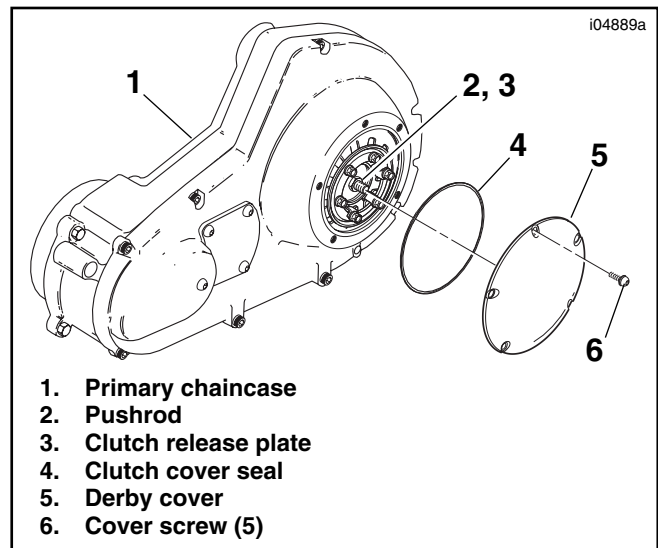

Figure 3. Clutch Inspection Cover
2. See Figure 3. Using a T27 TORX drive head, remove the clutch-inspection (derby) cover (5) from the primary chaincase (1).
1. See Figure 3. Remove the quad-ring clutch-inspection cover seal (4) (2004 and later models use a gasket, H-D Part Number 25416-99C) from the groove in the primary chaincase cover. Wipe all lubricant from the seal and inspect it for cuts, tears or signs of deterioration. Replace if necessary.